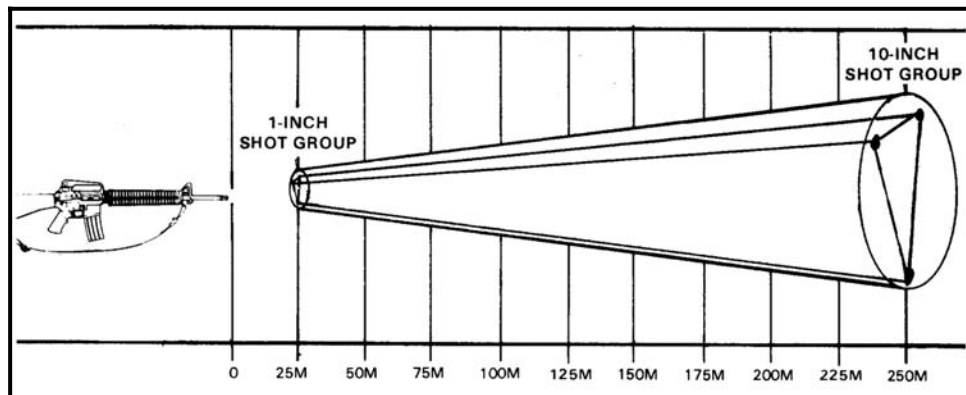

Figure 5-38. Increase in shot-group size as range increases.
(2) *Increase of Shot-Group Size.* Just as the distance covered by a minute of angle increases each time the range increases, a shot group can be expected to do the same. If there are 2.54 centimeters between bullets on a 25-meter target, there will be an additional 2.54 centimeters of dispersion for each additional 25 meters of range. A 2.54-centimeter group at 25 meters (about 3.5 minute of angle) is equal to a 25.4-centimeter group at 250 meters (Figure 5-38).